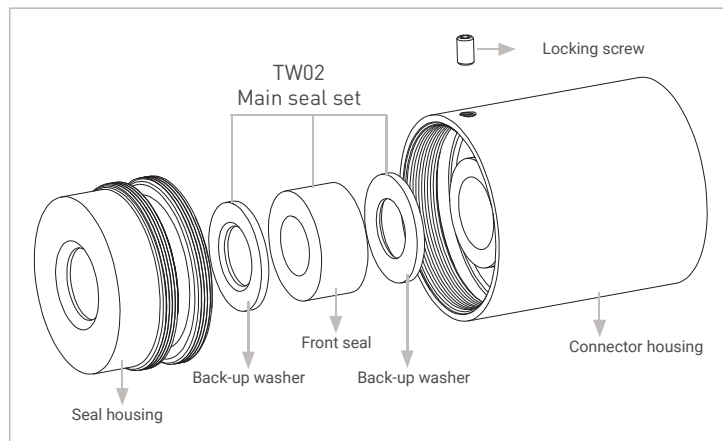

Figure 7
- ▶ Install the new main seal set into the seal housing as described in *Figure 7*.